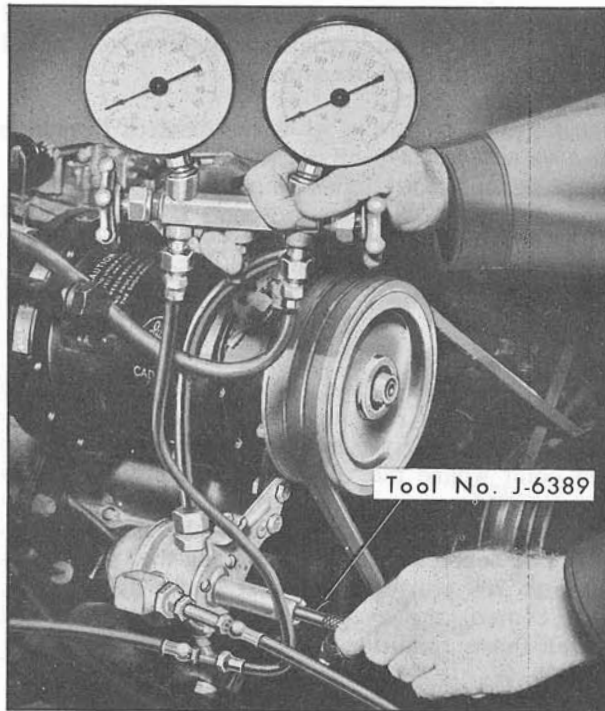

Fig. 13-1 By-Pass Valve Adjustment
8. Using Tool J-6389, turn adjusting screw clockwise to increase pressure; counter-clockwise to decrease pressure, to obtain 30 psi, Fig. 13-1.